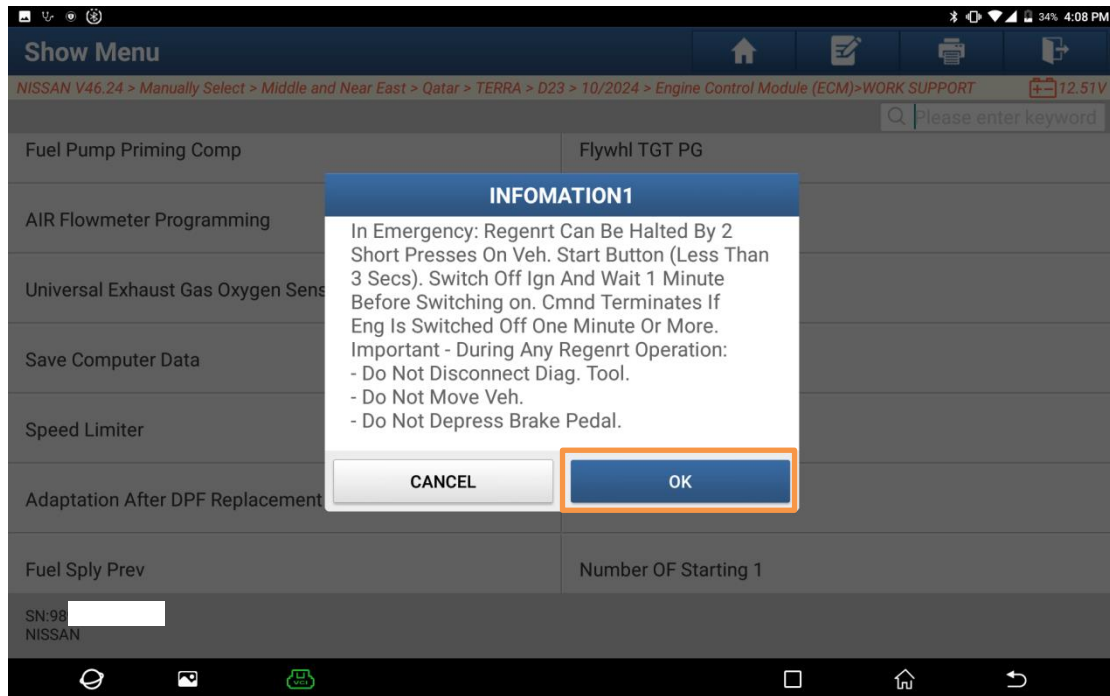
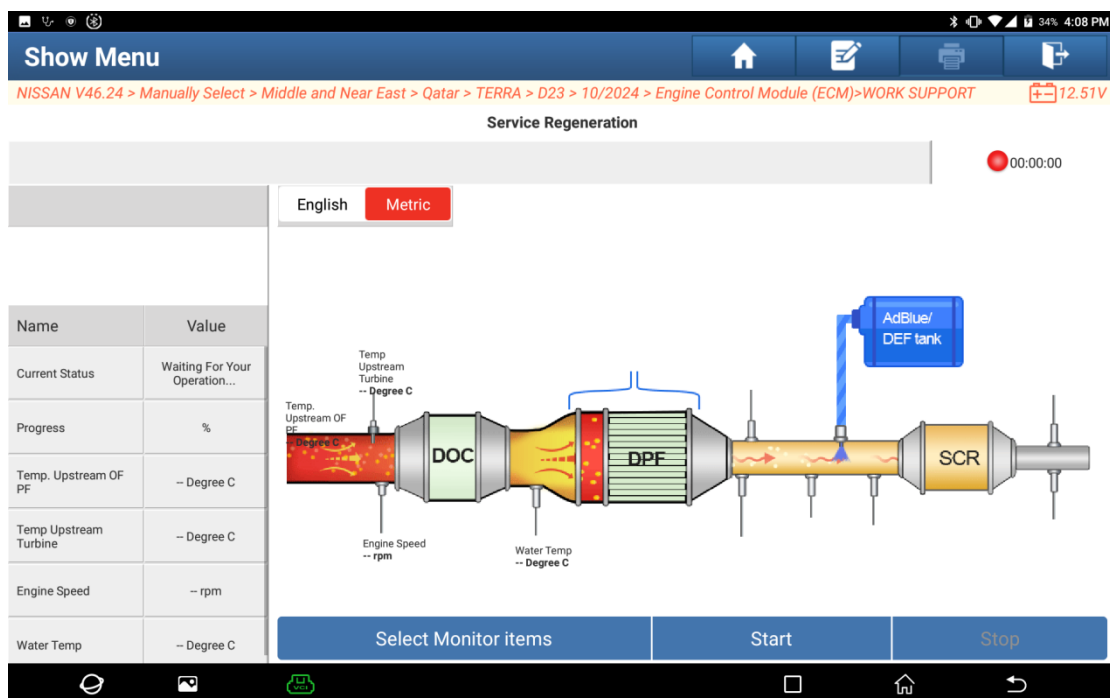

Figure 17
Figure 18
13. Carefully read the pop-up prompt information in Figure 17. Do not disconnect the diagnostic tool, move the vehicle, or press the brake pedal during the entire regeneration cycle to avoid serious consequences. To interrupt the function midway, you can terminate the regeneration process by briefly pressing the vehicle start button twice within 3 seconds, then turn off the ignition, wait for 1 minute, and restart. Click [OK] to enter the interface shown in Figure 18.